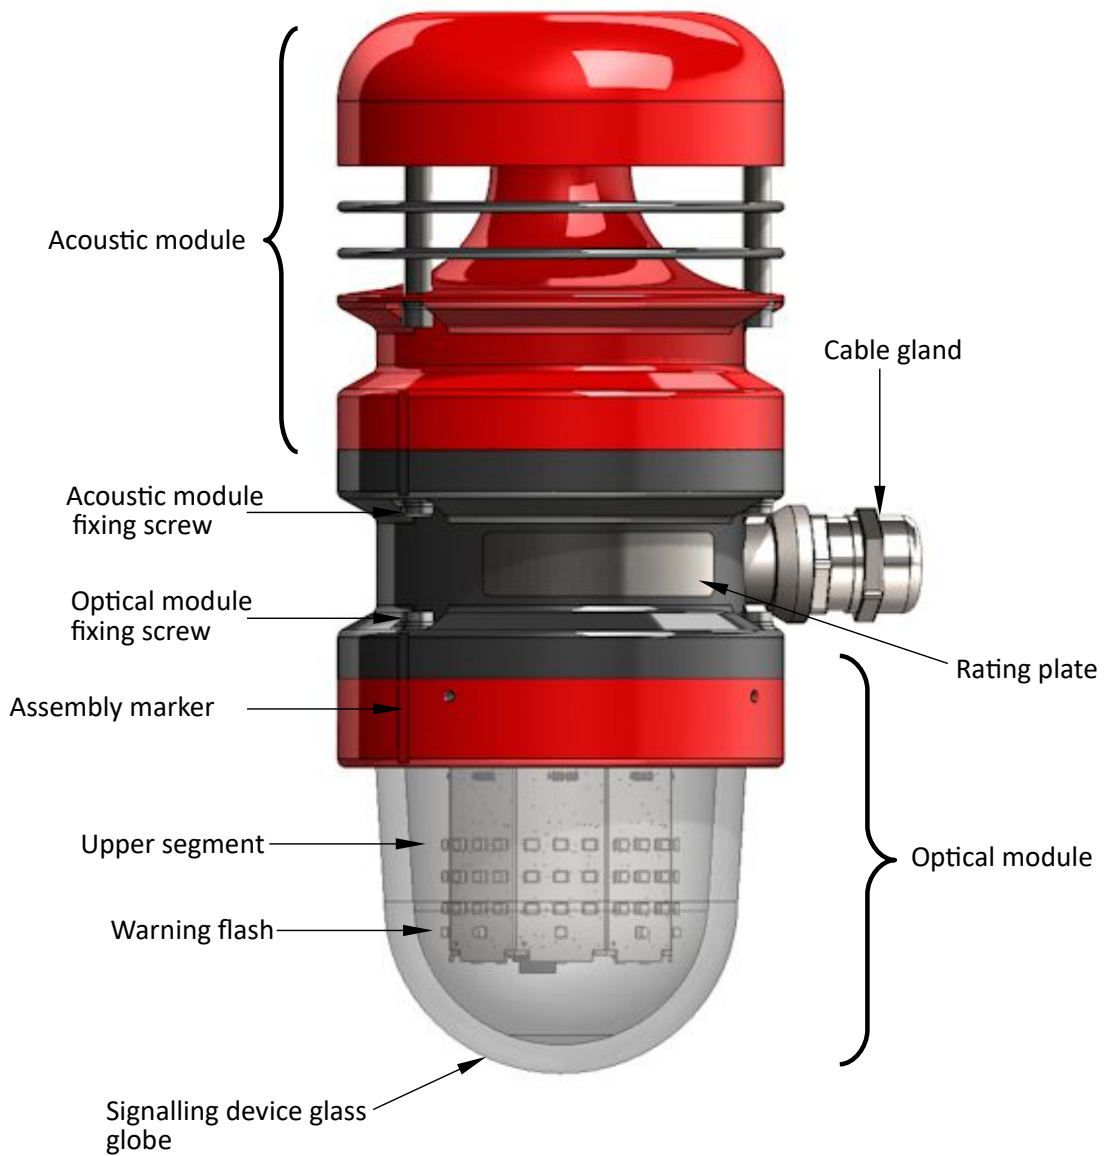
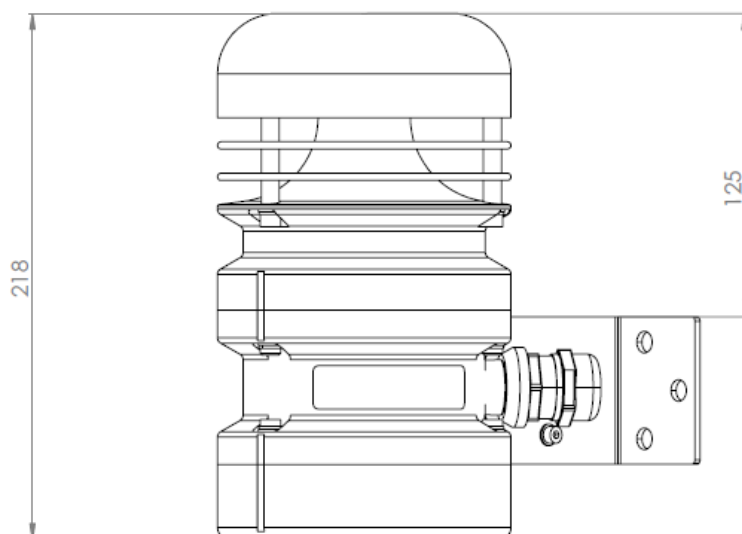

Figure 3: Warning beacon construction
Figure 6: Overall dimensions of the acoustic beacon
-  The required position for the device operation is vertical, with glass globe down (see Figure 3).
Dimension and enclosure of signaller shown Figure 3
Place the signal device on the hanger so that the glass cover is pointing vertically downwards (see Figure 3). In the case of an acoustic-only signal device, the acoustic part should be pointing vertically upwards (see Figure 6).